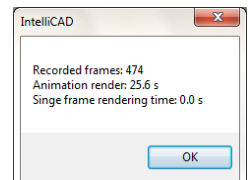

Fig. 501 – message informing that the AVI file has been saved to the disk
- you will be informed when it is finished in a message including details of the saved video: number of frames, time of rendering of a whole video and of a single frame (Fig. 501);